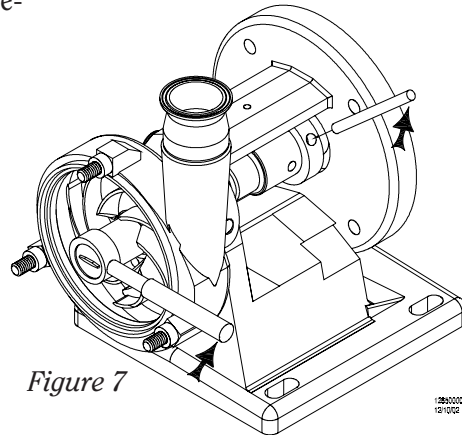

Figure 7
- a) Loosen the cover nuts (26) with the soft-faced hammer and remove.
- b) Remove the pump cover (24) and the cover gasket (21).
- d) Loosen and remove the guard screw (3). Next remove the shaft guard (35).
- e) Place the 3/8" diameter rod in the pump shaft hole. Allow the rod to rest against the pump flange support (2) to prevent the shaft from rotating while loosening the impeller nut (23) with the 15/16" socket wrench (*Figure 7*). Remove the impeller nut and the impeller nut gasket (25).